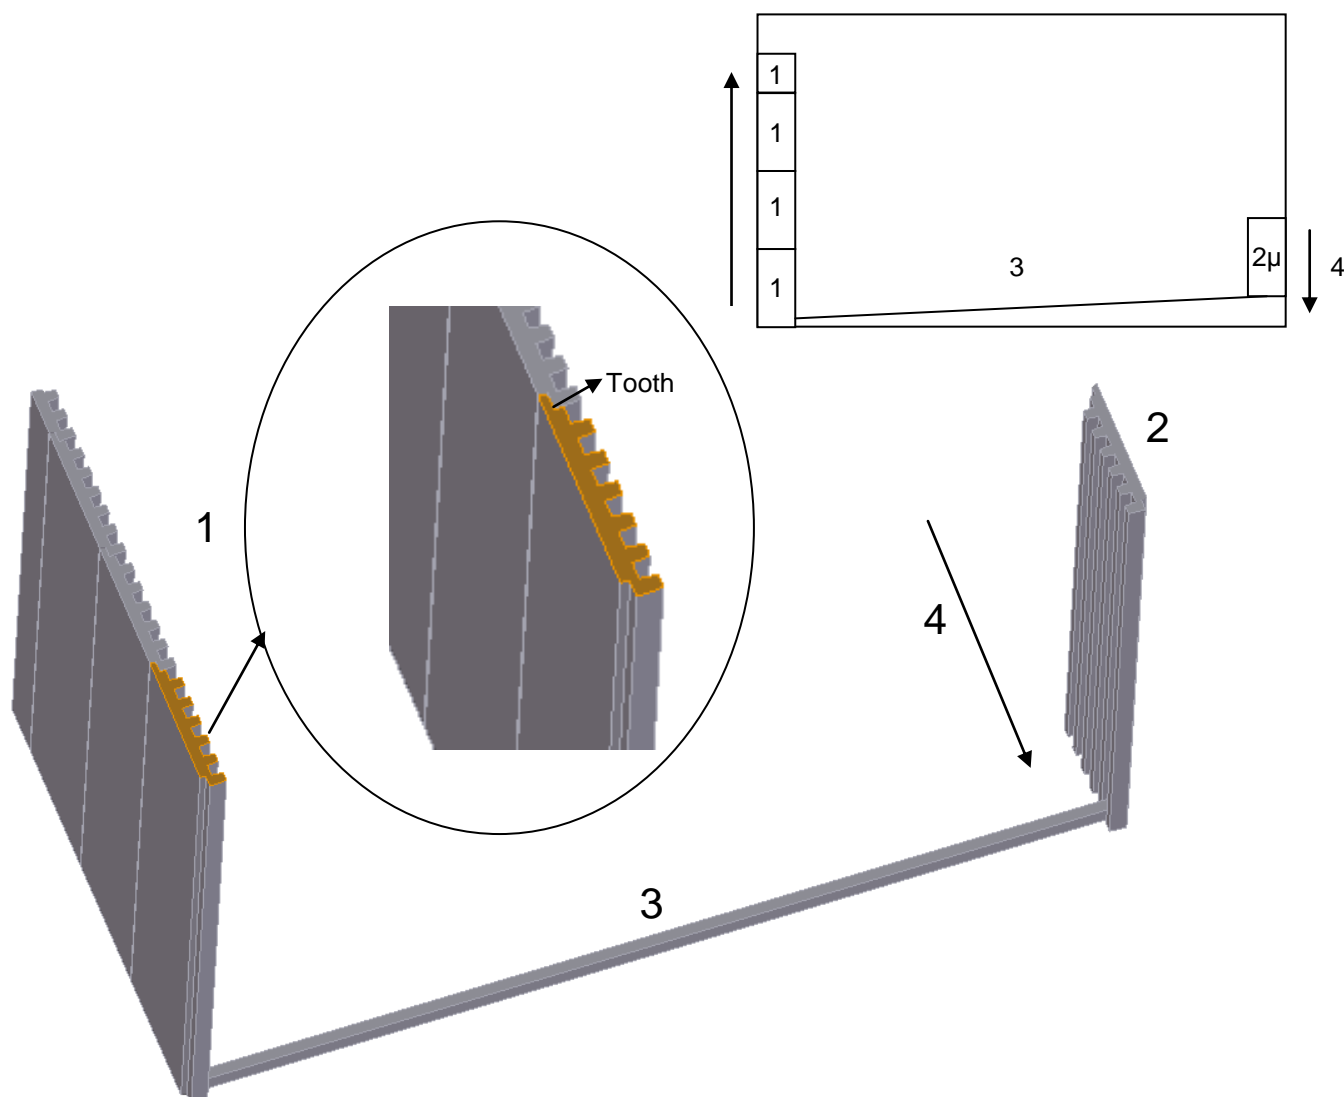

Figure 4: Cast iron
The tooth must be oriented to the rear side. See figure 4
- Step 3: Place the spoiler in the first groove of the first left ribbed cast iron part and in the first groove of the right ribbed cast iron. See figure 4
- Step 4: Move the right ribbed cast iron part to the front side of the fireplace so the spoiler becomes parallel with the front of the fireplace. See figure 4